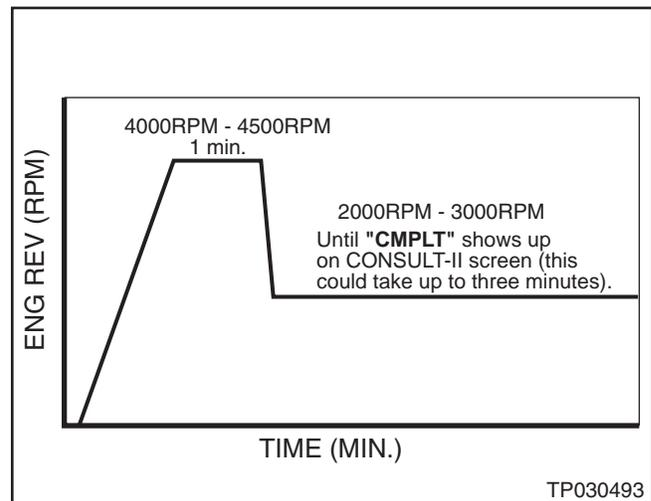

Figure B1
- H. Increase engine speed to between 4000 RPM and 4500 RPM for one minute under NO load (see Figure B1).